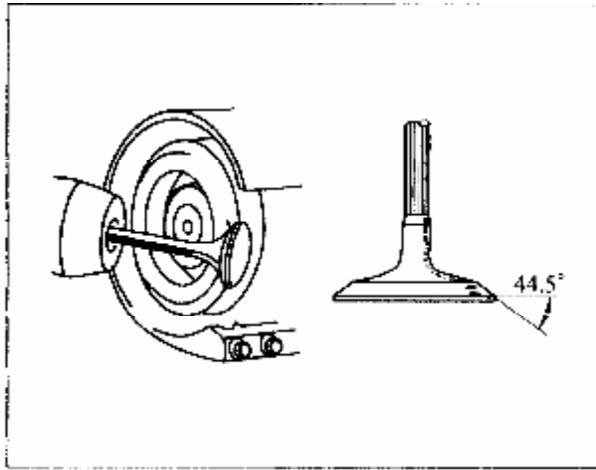

Figure 3-9 Check and Grind Valve Cone
**3.1.8** Check valve cone and plate for depression, groove and carbon deposit. If necessary, grind to correct the valve cone angle (correct angle is  $44.5^\circ$ ). The grinding extent should be as small as possible. (see Figure 3-9).